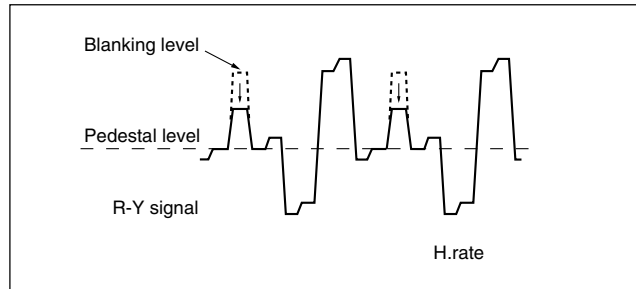

Fig. 3-6-3 DEMOD Fo-1
- (1) Connect an oscilloscope to TP4 round (R-Y).
- (2) Adjust L5 so that the blanking level of the R-Y waveform is near to the pedestal level as shown in Fig. 3-6-3. (L5 is turned to the right side and turned over the 90°, but the blanking level does not match the pedestal level.)